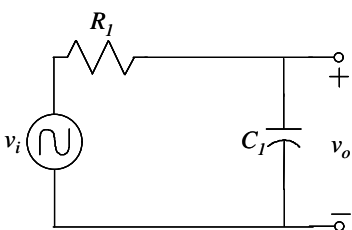

Figure 3.
B. Construct the circuit in Figure 3. Use the function generator to provide a 1 volt peak-to-peak, 2kHz square wave for  $v_i$ . Use the oscilloscope to measure the signal across the capacitor. For Figures 3 to 4, assume  $R_1 = 1k\Omega$ ,  $R_2 = 2.2k\Omega$ ,  $C_1 = 1\mu F$  and  $C_2 = 150\mu F$ .